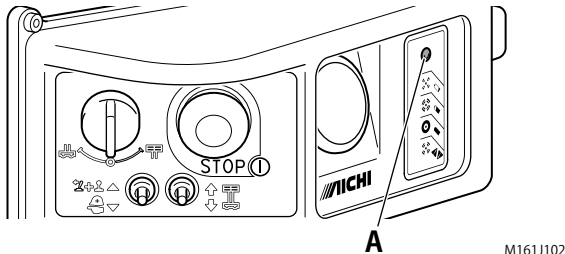

Fig. 7-10
- If the main power cannot be turned on even when the charging cable is removed, reconnect the charging cable to the power outlet. After confirming that the battery charger indicator light (Fig. 7-10, A) is illuminated or flashing, remove it again.